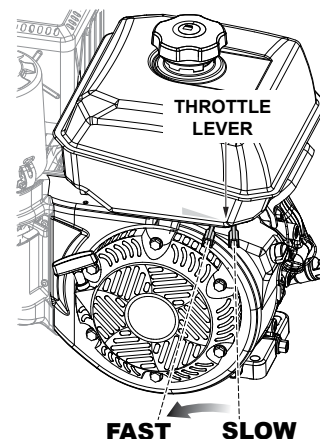

Figure 21. Throttle Lever (FAST)
4. Move the throttle lever (Figure 21) away from the slow position, about 1/3 of the way toward the fast position.